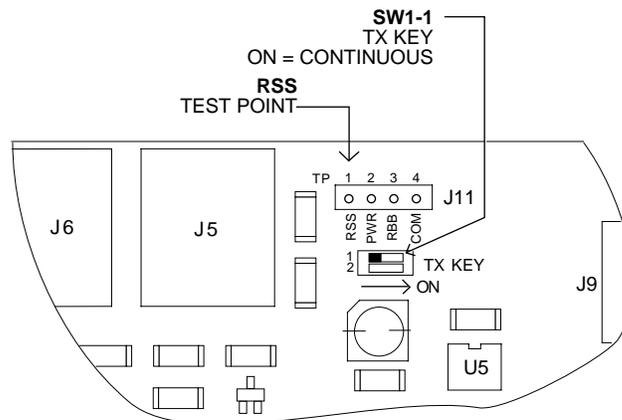

Figure 14. Front Panel Logic Board
During installation, the received signal strength (RSS) should be monitored while the station antenna is oriented for best reception of the distant radio. To do this, connect a DC voltmeter to the MONITOR connector on the rear panel—Pin 4(+) and Pin 5(-), or, with the top cover lifted off as much as the cabling allows, monitor Test Point 1 (RSS) on the Front Panel Logic Board with a DC voltmeter (see Figure 14). As the received signal strength increases so does the RSS DC voltage. The nominal RSS voltage range is between 0.8 Vdc and 3.0 Vdc.
On radios with a G.703 interface, SW1-1 on the Front Panel Logic Board (Figure 14) is set to ON at the factory to key the radio continuously.
- Switching SW1-1 on the Front Panel Logic Board to ON (see Figure 14).